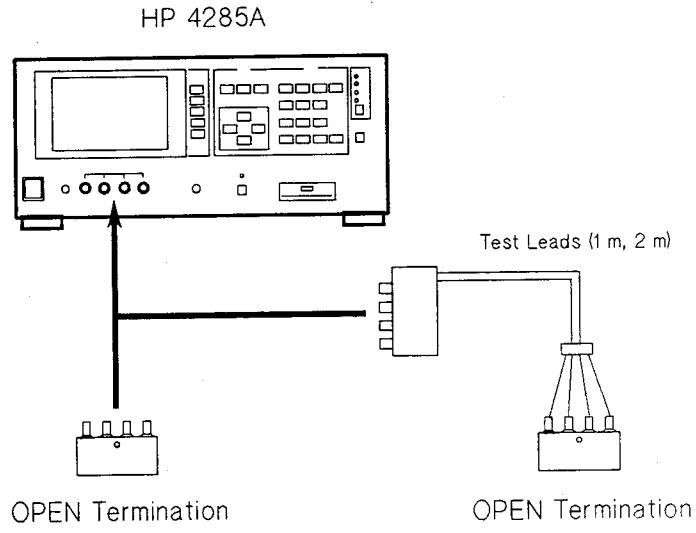

Figure 2-16. Test Signal Level Adjustment Setup
5. Perform the Test Signal Level Adjustment according to the program instructions. Figure 2-16 shows the adjustment setup.